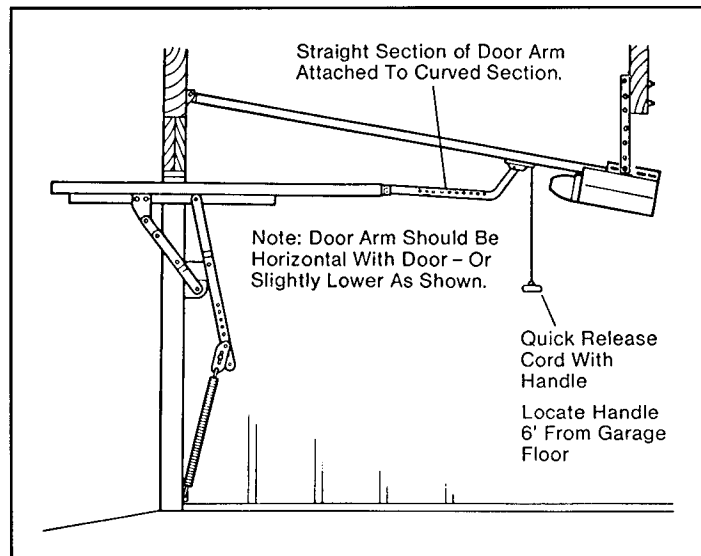

Figure 27
Step 65: Attach the curved section of the door arm to the trolley bottom as shown in Figure 27. To attach, remove the hitch pin clip from the clevis pin and remove the clevis pin from the trolley bottom. Next, insert door arm section into trolley bottom and place clevis pin through the trolley bottom and door arm and lock in place with hitch pin.
Step 66: Connect the two free ends of the door arms by rotating the straight section upward to the rear vertical (toward the curved door-arm section) so that two holes in each section can be matched (see Figure 27). Connect the two parts of the door arm using the bolts and keps nuts supplied. **Note:** If holes do not match precisely, slide the trolley bottom toward the operator head until a match occurs. At that point, insert a bolt through top adjoining holes. Next, insert second bolt through lowest set of adjoining holes.
Step 67: Attach pull cord to quick-release lever on trolley bottom as shown in Figure 27.